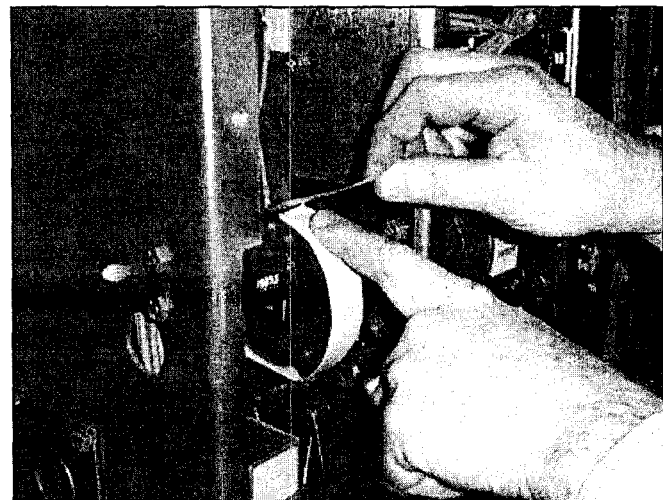

Figure 6-7 Wrapping Tape Around Cam
**Step 4** - Place the tape around the cam starting from the bottom up. Make certain that the tape adheres well to the cam surface. (See Figure 6-7).